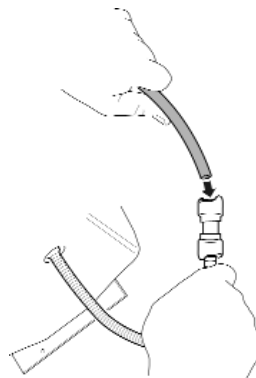

Fig. 25
Step 13 Connect hot water supply (see Figs. 25)
To connect the braided hose to Whale® 12mm semi rigid tubing use Whale® Equal Straight fitting (WU1204) as shown Fig. 25. To connect directly to 10mm (3/8") flexible tubing, no additional fittings are required, push the hose over the 12mm nipple on the end of the braided hose and secure with a hose clip. For connecting to 13mm (1/2") flexible tubing use Equal Straight fitting (WU1204) and 1/2" Stem Adaptor (WU1282).